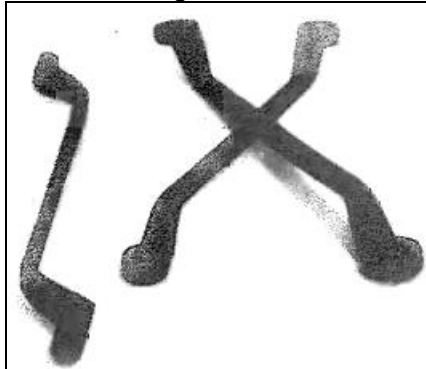

Figure. 1
6. Describe the steps involved in recognising the objects (spanners with different orientations) from a captured image by an acquisition system as shown in figure.1. Also, suggest the method of measuring dimensions of the object.